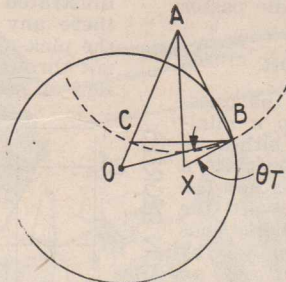

Fig. 2.
This question brings up two more cases which are illustrated in Figs. 2 and 3. In the former, the arc of the needle passes between the centre of the record and the pivot point of the pick-up. In the latter, the needle arc passes outside the centre of the record.
EXAMPLE OF USE OF FIG. 2.
- Distance between pivot-point of arm and centre of record (OA on Fig. 2) . . . 8.9 in.
In Fig. 3 we have the third case which completes the general treatment. Here the pick-up needle swings in an arc **outside** the centre of the record. It can be shown that here no combination of dimensions can be found in which the tracking error is zero at some part of the pick-up's travel, so that at first sight it would not appear to confer any advantage at all. However, a disadvantage suffered by Fig. 2 is that here it is impossible to use any reasonable degree of offset on the head in order to improve the tracking. The reason for this is that with the arrangement of Fig. 2, the sign of the tracking error changes as the pick-up passes through the point of zero error. That is to say, the line of lateral vibration of the needle, BX, changes over from the side shown in Fig. 2 to the opposite side of the radius OB, after the point of zero error has been reached.